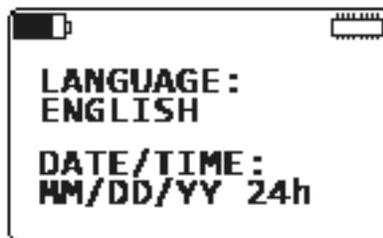

Figure 5. Language and Date/Time Format screen
1. With the Language and Date/Time Format screen (Figure 5) displayed, press the Enter  $\leftarrow$  button. This initiates selection mode; the setting under the Language field will change to blinking reversed text.